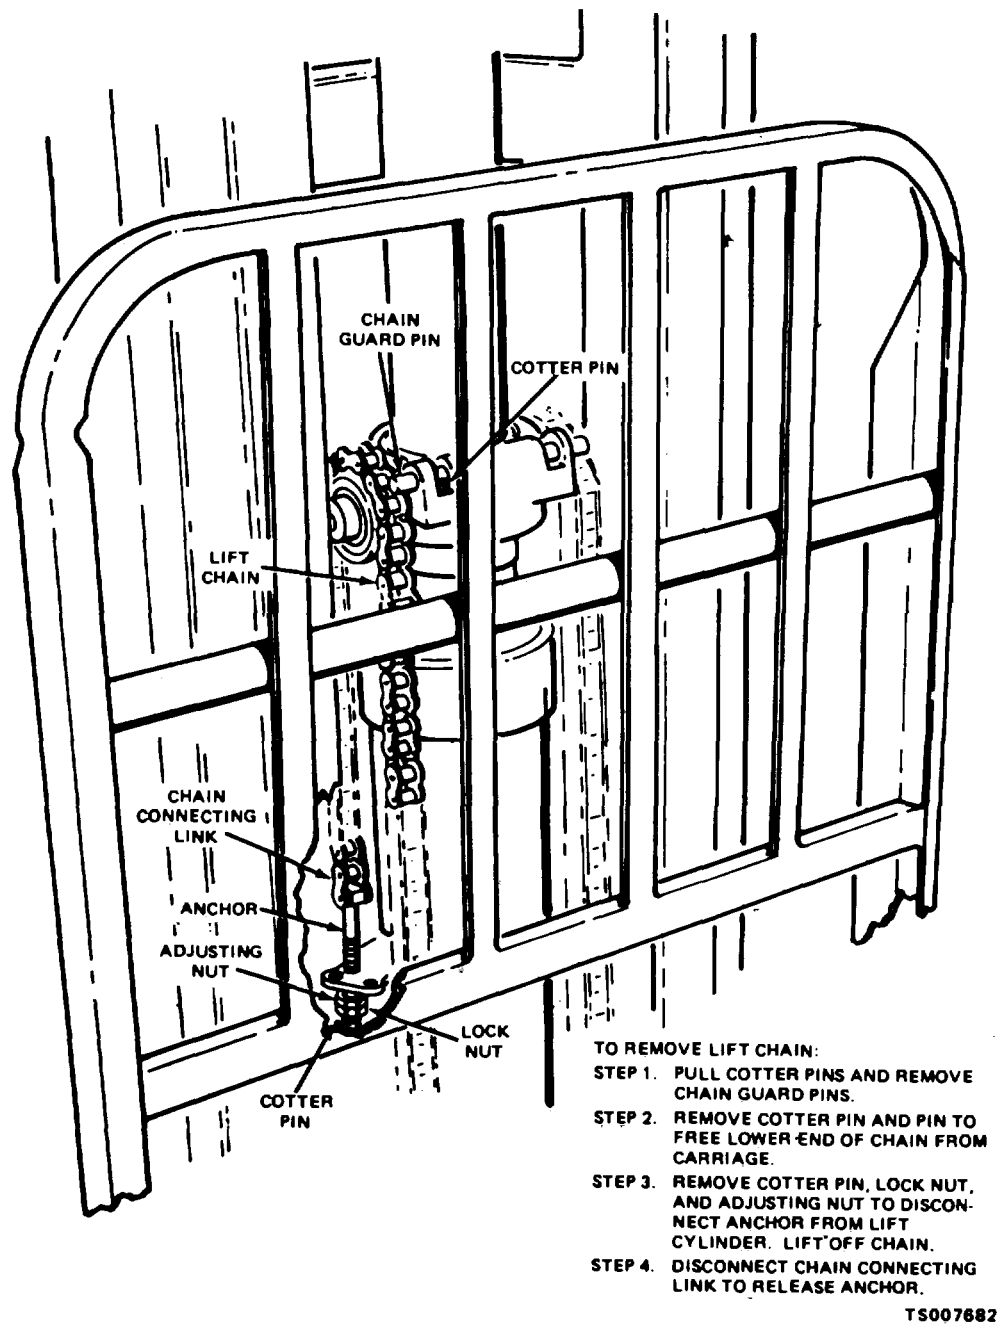

Figure 4-9. Lift Chain, Removal and Installation
a. Removal. Remove the lift chain as shown in figure 4-9.
(2) If adjustment is incorrect, loosen the locknuts (fig. 4-9) and turn the adjusting nuts to meet the requirement. Chain length must be the same on each side.
(3) Lock the adjusting nuts with the locknuts.